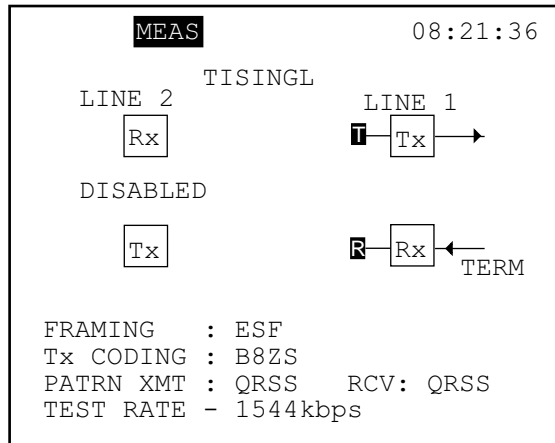

Figure 5 T1SINGL, Test Rate 1.544 kbps
- B. Press the GRAPHIC key on the keypad and notice the changes. Refer to Figure 5.